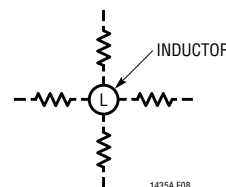

Figure 8. Allowable Inductor/ R_{SENSE} Layout Orientations
Because of the sensitivity of the LTC1435A current comparator when operating close to the minimum on-time limit, it is important to prevent stray magnetic flux generated by the inductor from inducing noise on the current sense resistor, which may occur when axial type cores are used. By orienting the sense resistor on the radial axis of the inductor (see Figure 8), this noise will be minimized.
- If operating close to the minimum on-time limit, is the sense resistor oriented on the radial axis of the inductor? See Figure 8.